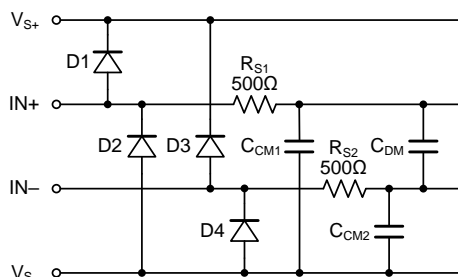

Figure 1. Input EMI Filter and Clamp Circuit
Figure 1 shows the input EMI filter and clamp circuit. The LTC8741/8742/8743/8744 comparators have
Infrared (IR) communication is inherently immune to RF interference as long as there is a line-of-sight path between the transmitter and the receiver. It is also one of the lowest cost communication schemes. This makes it a good choice for implementing wireless communications in applications such as utility metering. A common system topology to extend battery life is to use a power efficient IR receiver analog front end (AFE) that is always on and wakes up the host only when there is a valid IR signal detected as shown in Figure 1.
Figure 1 shows the IR receiver system block diagram. The host MCU is normally in the shutdown mode (during which the quiescent current is less than 1 μ A) except when data is being transferred.